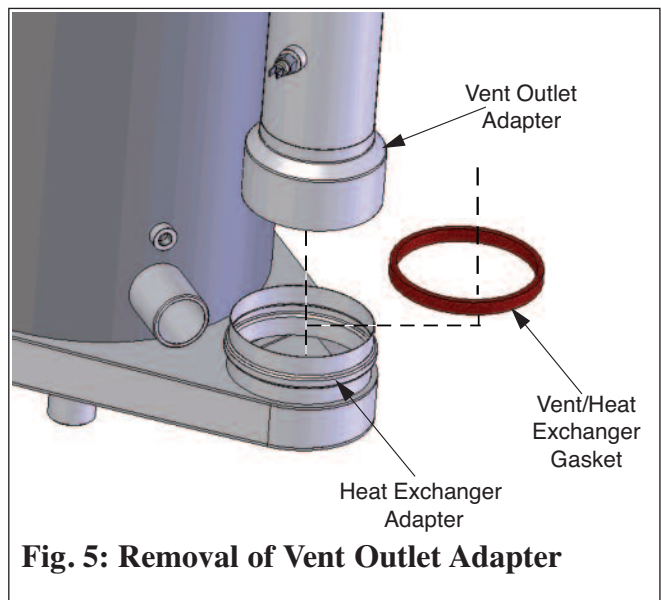

Fig. 5: Removal of Vent Outlet Adapter
2. Remove entire vent outlet adapter by lifting vertically upward and out of the boiler cabinet using a twisting / rocking motion (Fig. 5).